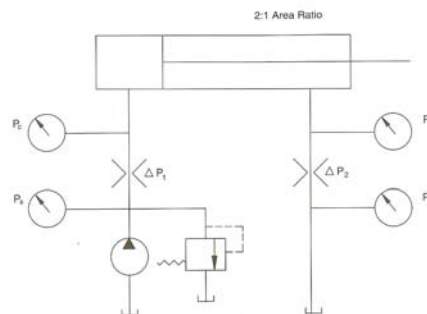
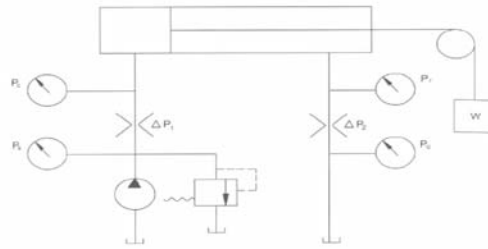

FIGURE 12.14 Functional diagram of a cylinder circuit with proportional valve.
FIGURE 12.16. Cylinder with 2:1 area ratio and valve with 1:1 area ratio controlling an overrunning load.
- Suppose the circuit shown in Fig 12.14 has an overrunning load during extension. (Fig 12.16)